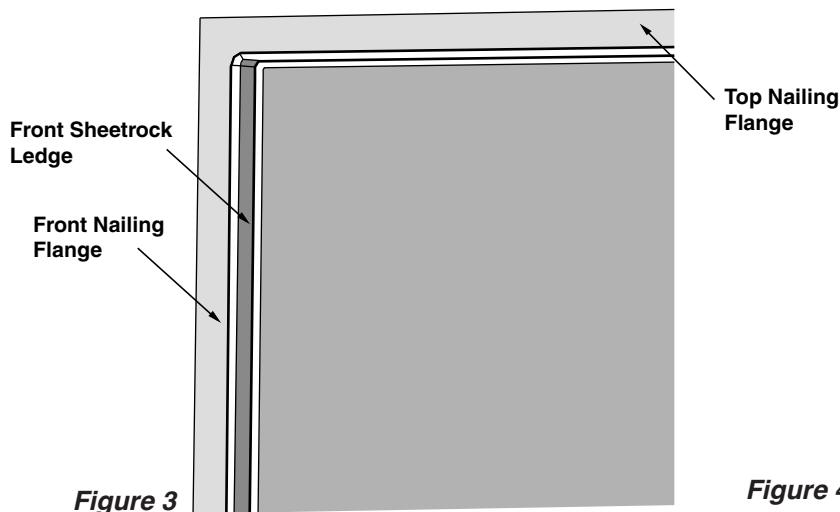

Figure 3
- 3a With piece (C) in place (but not adhered), measure the distance to the front sheetrock ledge of the shower. (See Figure 3) This will be referred to as Dimension A.